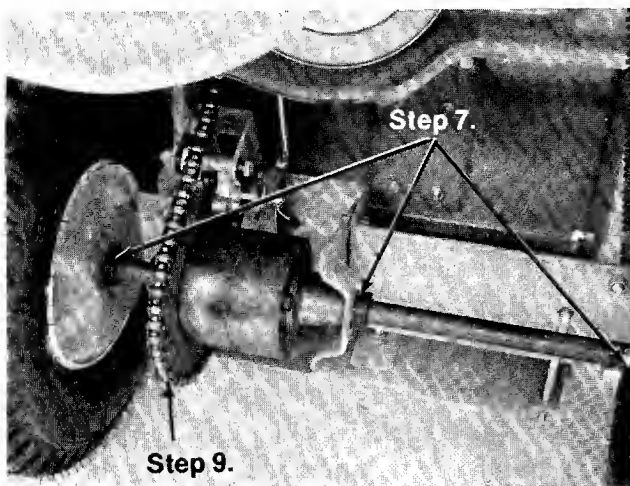

FIGURE 28.
4. Differential—It is lubricated at the factory with 3 ounces of high temperature grease (450°F.). The grease should only be checked or replaced if the differential is disassembled for repair. See figure 28.
6. Steering Column Bearings (2)—Oil once a season with light oil.
7. Rear Axle Bearings (3)—They require no lubrication. See figure 28.
8. Steering Shaft Bearings (2)—They require no lubrication.
9. Chain—Remove and clean with kerosene. Lubricate with an oil soaked rag. See figure 28.